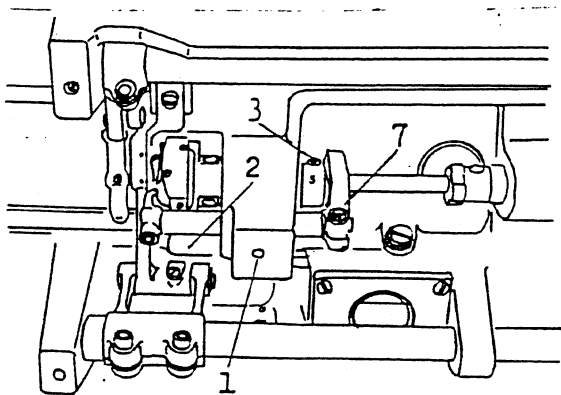

Fig 24
1. Loosen the screw(1, Fig 24).
2. Adjust the clearance between projection of hook and the opener by means of movement of thread releasing shaft bushing(2, Fig 24) to the right or to the left as may be required. The standard clearance between the two parts is 0.8mm as shown Fig 26
3. Tighten the screw(1, Fig 24) securely.
Place the one of screw(3, Fig 24) which is indicated by "S" on V ditch of the hook shaft.